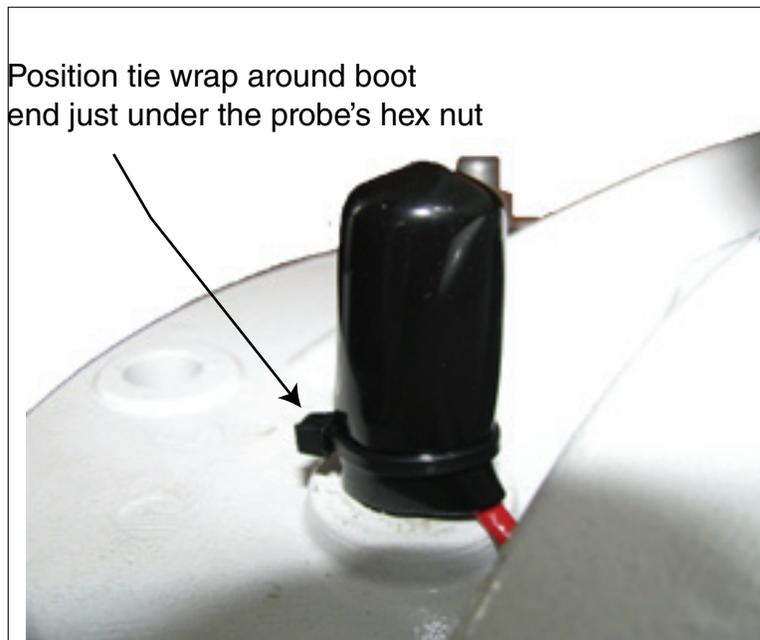

Figure 22. Positioning the Tie Wrap Over the Probe Cable Protective Boot
6. Slide the boot over the bend of the cable and push it down over the probe's hex nut until it rests on the top of the CCVP. Get a tie wrap from the kit and position it around the end of the boot just under the probe's hex nut and tighten it (see Figure 22).